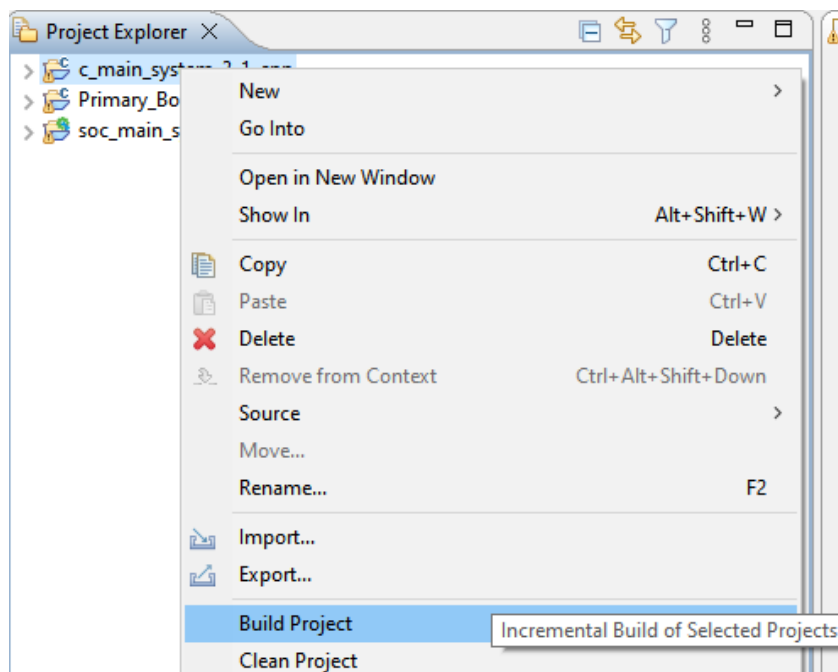

Figure C.24. Build Project
14. After cleaning, right click on the “c_main_system_3_1_cnn” and select the option as shown in Figure C.24 to build the project.